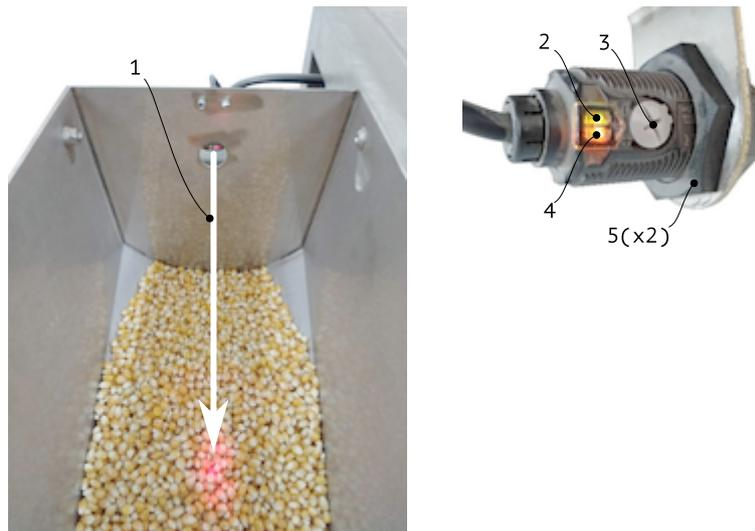

Figure 11
Photoelectric sensors BL1 (Butterfly corn bin), BL2 (Mushroom corn bin), BL3 (popcorn bag) are sensors of diffuse-reflective type. The sensor trips whenever distance (1) to corn seeds in corn bins, or popped corn in popcorn bag exceeds certain threshold, see Fig. 11.